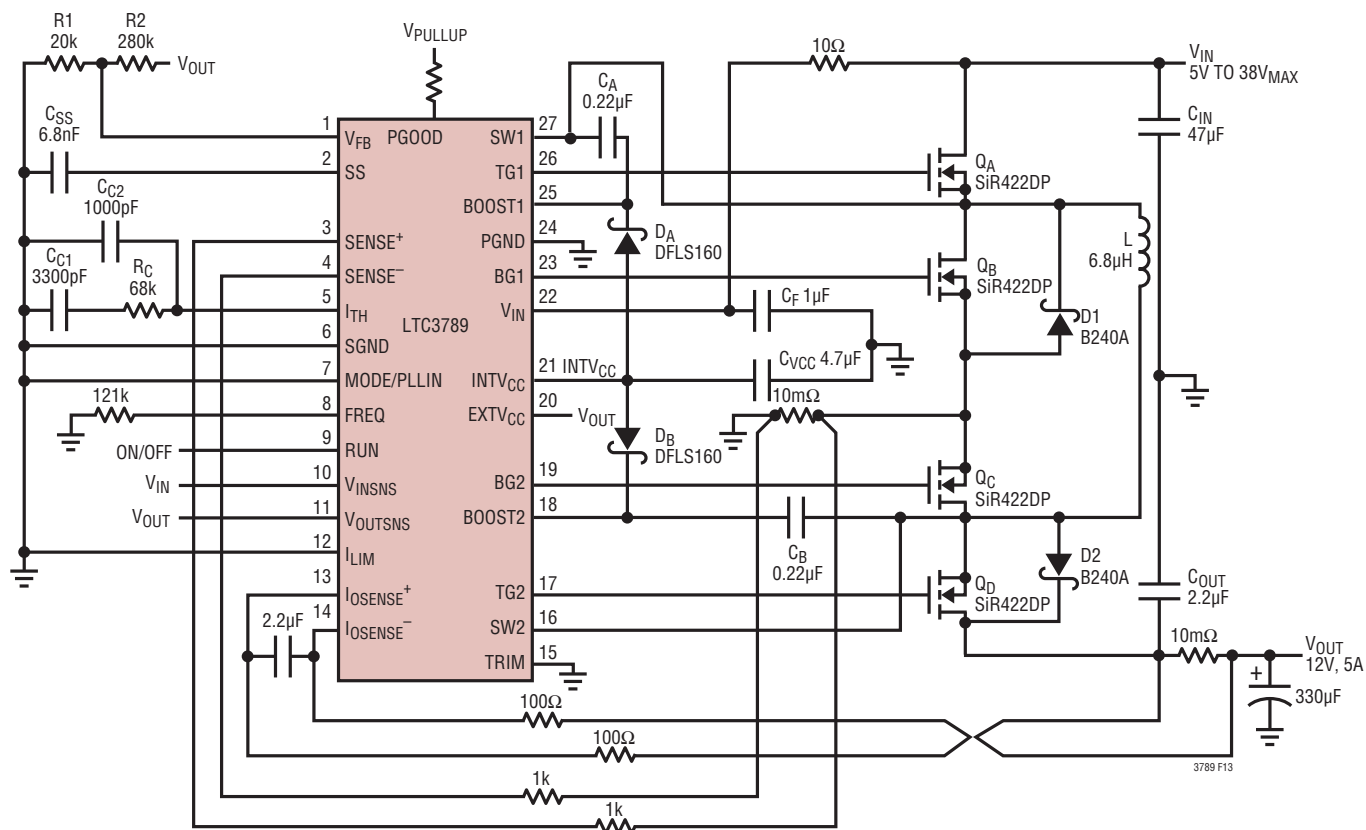

Figure 13. LTC3789 12V/5A, Buck-Boost Regulator
Referring to Figure 13, the external bootstrap capacitors  $C_A$  and  $C_B$  connected to the BOOST1 and BOOST2 pins supply the gate drive voltage for the topside MOSFET switches A and D. When the top switch A turns on, the switch node SW1 rises to  $V_{IN}$  and the BOOST1 pin rises to approximately  $V_{IN} + INTV_{CC}$ . When the bottom switch B turns on, the switch node SW1 drops to low and the boost capacitor  $C_A$  is charged through  $D_A$  from  $INTV_{CC}$ . When the top switch D turns on, the switch node SW2 rises to  $V_{OUT}$  and the BOOST2 pin rises to approximately  $V_{OUT} + INTV_{CC}$ . When the bottom switch C turns on, the switch node SW2 drops to low and the boost capacitor  $C_B$  is charged through  $D_B$  from  $INTV_{CC}$ . The boost capacitors  $C_A$  and  $C_B$  need to store about 100 times the gate charge required by the top switches A and D. In most applications, a  $0.1\mu\text{F}$  to  $0.47\mu\text{F}$ , X5R or X7R dielectric capacitor is adequate.
- Flood all unused areas on all layers with copper. Flooding with copper will reduce the temperature rise of power components. Connect the copper areas to any DC net ( $V_{IN}$  or GND). When laying out the printed circuit board, the following checklist should be used to ensure proper operation of the LTC3789. These items are also illustrated in Figure 13.